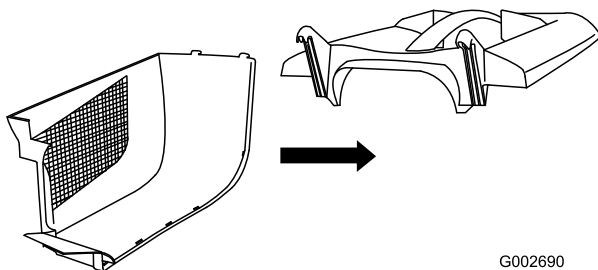

Figure 7
1. Slide the side into the latches in the top (Figure 7).